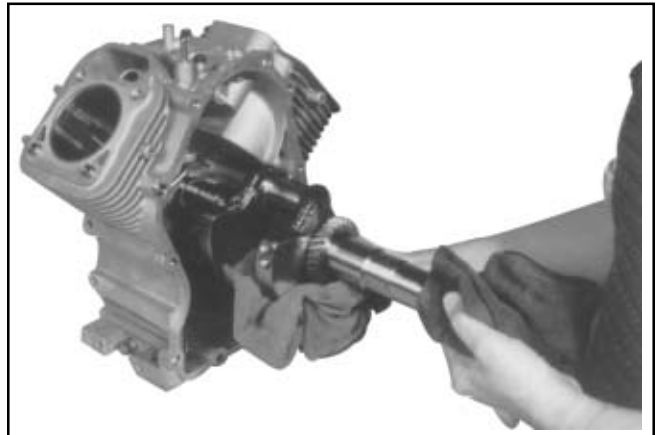

Figure 9-56. Removing Crankshaft.
1. Carefully pull the crankshaft from the crankcase. See Figure 9-56.